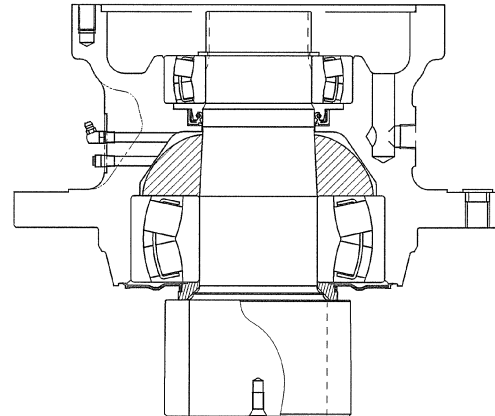

Fig. 33-248
- Particularly if no failure is found, the further disassembly (under condition shown in Fig. 33-248) is not allowed. Check on parts for possible failure according to the inspection procedure shown in item 33.2.5.4.2 separately in this condition. And we recommend that the pinion shaft and housing assy are replaced together as one set. But if it is unavoidably necessary to replace a part of them, follow the procedure shown below.